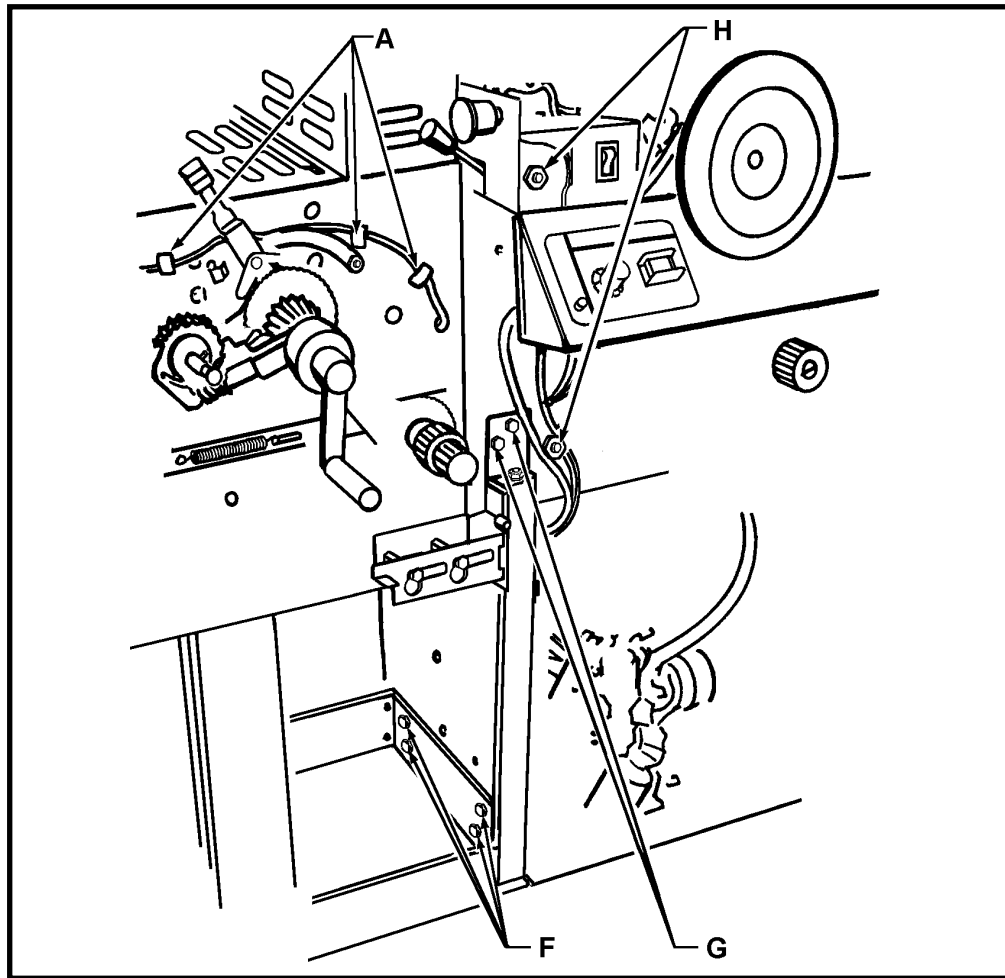

Figure 85 - Wire Routing
12. Remove the strain reliefs (A) that secure the auxiliary feed, proof switch, and safety switch wires (see Figure 85). Remove the wires from both sides of the chain delivery by routing them through the side of the machine; then position the wires to the side and let them hang.
17. Remove the lower four bolts (F) (see Figure 85).
18. Remove the four bolts (G) (two on each side) on the mid section support ("L" shaped brackets) (see Figure 85).
19. Remove the switch box; then remove the upper and lower bolts (H) on each side of the press, and remove the chain delivery (see Figure 85).